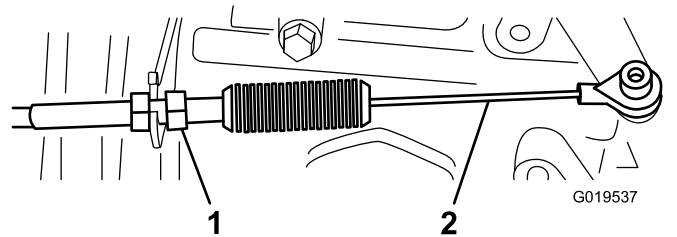
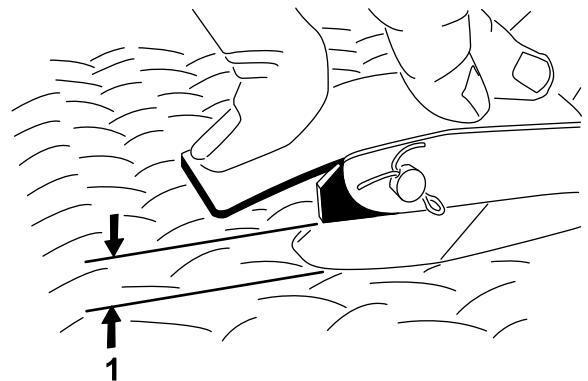

Figure 67
Figure 68
2. Adjust the ball joint on the accelerator cable (Figure 67) to allow 2.54 to 6.35 mm (0.100 to 0.250 inch) of clearance between the accelerator pedal arm and the top of the diamond tread floor plate (Figure 68), when you apply 11.3 kg (25 lb) of force to the center of the pedal.
3. Tighten the locknut (Figure 67).